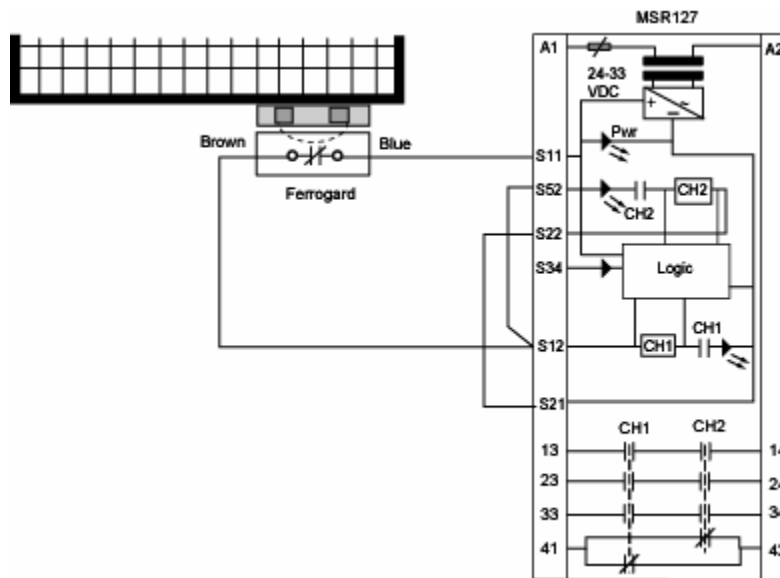

Figure 4. Single Channel with One Ferrogard
- (1) The FRS3, 4 and 5 have screw terminals
- (2) The Ferrogard GD2 uses red and blue wires
- c. The circuit is considered normally closed (NC) when the gate is closed.
- d. The input circuit arrangements, shown in Figures 4 and 5, meet the requirements of EN954-1 Category 2.